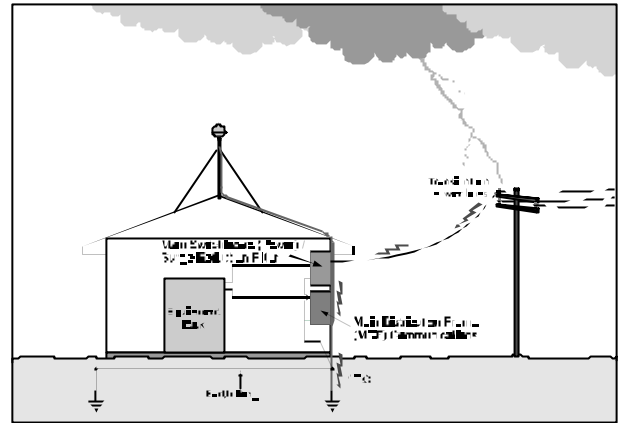

Figure 2 - Preferred grounding system
Attributes of an ideal grounding arrangement are considered in Figures 2 and 3 and below:
- There should be a **“single”** point connection to the ground network from all equipment within a facility. Figure 2 shows an example of a well-designed grounding system with a “single” point connection of mains power and communications equipment ground wires to the ground ring. If a surge arrives at the facility via the mains power supply, the surge protection equipment will divert excessive energy to ground, and the telecommunications and lightning protection grounds would rise